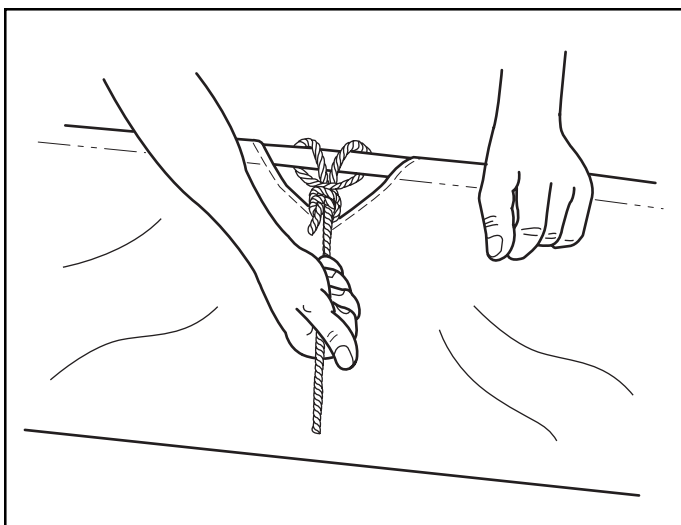

FIGURE 17
13. Secure the rope to the top center of the hopper bag frame as shown in figure 17.